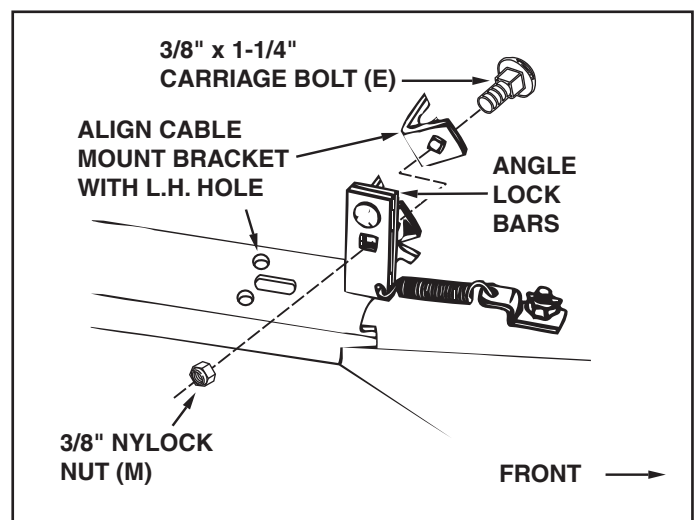

FIGURE 18 (Right Hand Side View)
STEP 4: (SEE FIGURE 18)
- From the left side, insert the welded end of the lift handle rod through the hole in the end of the channel assembly (Figure 18). Next, insert the lift link pin through the hole in the bracket that is welded to the lift handle rod. (The lift link is pre-assembled to the pivot support bracket). Secure the bracket with a hairpin cotter (W) inserted up through the lift link pin.